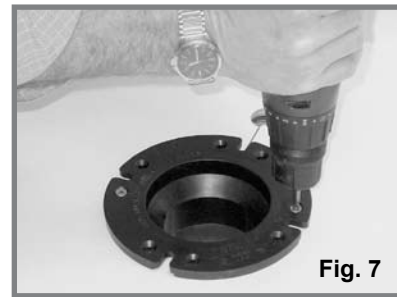

Fig. 7
STEP 7: Insert floor flange into larger hole and secure to the floor with #12x3/4-inch long flat head wood or sheet metal screws (fig.7).